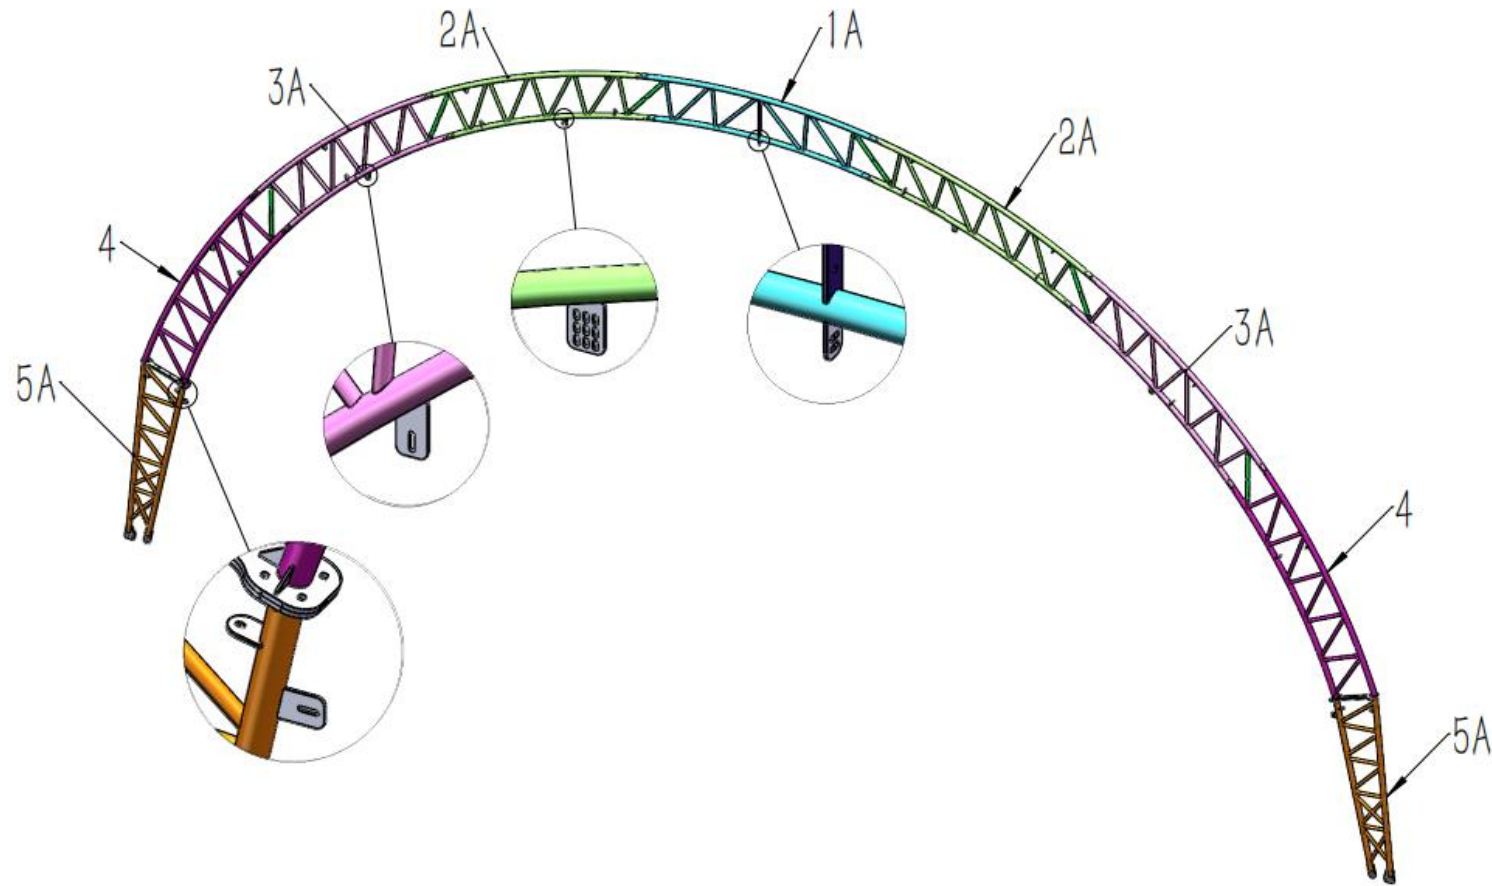

Figure 2
1. As Figure 2 shown to find one Top roof tube in the front and back door (No.1A), two Roof upper curving tube in the front and back door(No. 2A), two Roof middle curving tube in the front and back door (No. 3A) ,two Side lower curving tube(4) , two Lower curving tube in front and back door (5A)and assemble the first group and final group of arch with Supporting Tube between the arch (No.6). **DO NOT install the screw on the top of the truss where the fabric will rest.**
Note: Top Roof tube, Roof curving tube, Roof middle curving tube, Side lower curving tube and Lower curving tube (No.1A,2A,3A,4A&5A) which are welded with steel plates for front and back doors are different from the middle arch.(Figure 2)